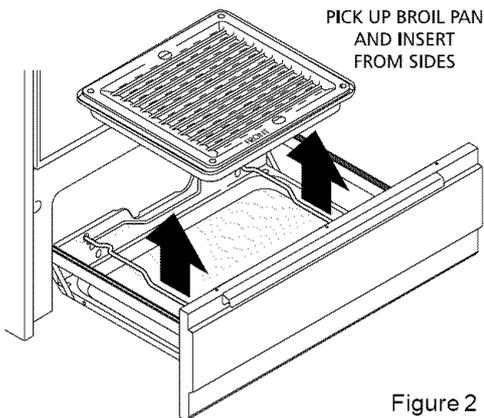

Figure 2
4. Position rack by tilting front of rack up and pulling rack out from locating holes in rear of broiler drawer. Reposition back of rack in the desired locating holes and allow front of rack to slide down into the corresponding slots in front of broiler drawer, Figure 2.